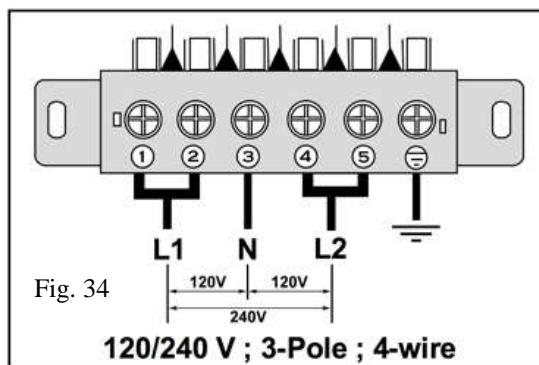

Fig. 34
- Connect to terminal block in accordance with figure 34.